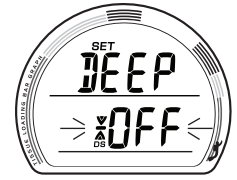

Fig. 39 - SET DEEP STOP
**SET DEEP STOP (TECH only)**, information includes (Fig. 39):